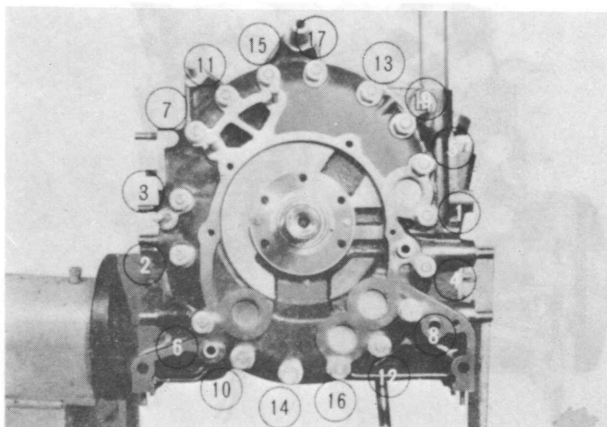

Fig. 1-102 Tightening order
2. Tighten the bolts gradually in the order shown in Fig. 1-102. The specified tightening torque is 2.5 m-kG (18 ft-lb).